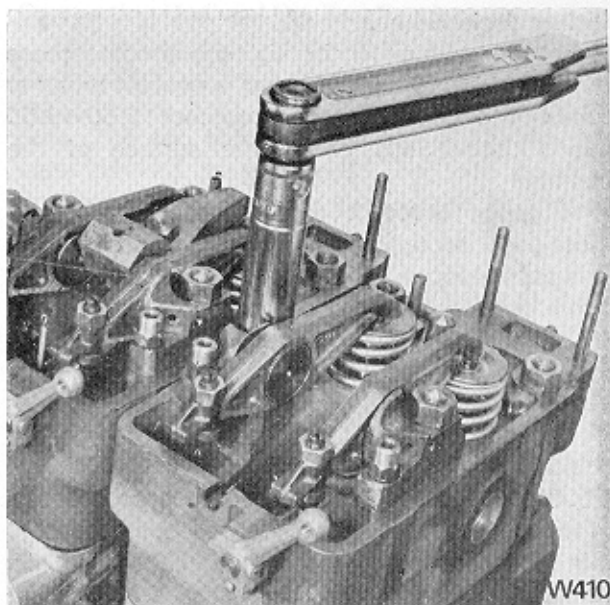

Fig. 72. Removing Cylinder Head Nuts
- (j) Remove circlips retaining valve rocker levers and move rocker levers to enable a socket to be fitted on cylinder head holding down nuts. (Fig. 72.)